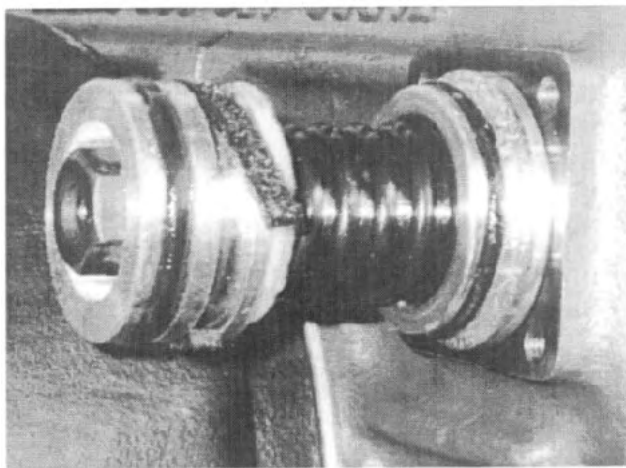

Fig. 97
35. Install the piston stop rings, high-low shift spring and the high-low shift piston (with a new o-ring) on the end of the high-low shifter shaft. Compress the spring with the piston and secure with a 1/2-13 lock nut. See Fig. 97.